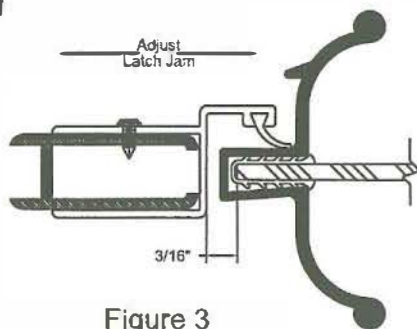

Figure 3
7. Replace wall channel and secure remaining two holes in wall channel using two #8 x 1 1/2" screws (17).
8. Replace latch jamb over wall channel. Close door and adjust latch jamb 3/6" from edge of glass (See Figure 3). Through the holes provided in the latch jamb, drill three #31 holes in wall channel. Secure latch jamb to wall channel with #6 x 3/8" SMS screws (21).
9. Set catch (22) in place on latch jamb (18) and secure with 6-32 x 3/16" screws (23).
10. Adjust drip trough (7), up at latch side of door and down at hinge side of door so water will drain into shower when door is opened. Adjust splash vinyl (6) to within 1/8" of curb.